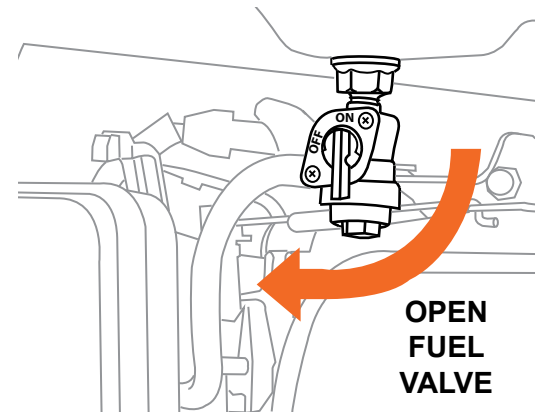

Figure 1
2. Turn the engine's fuel valve to the OPEN position, (see Figure 1).